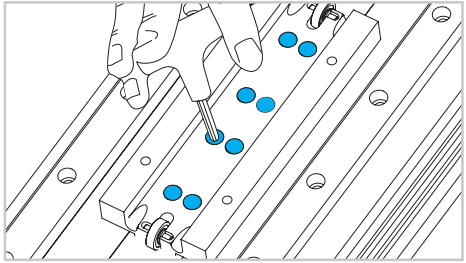

Fig. 8
- 9) Slide the top carriage in order to have access to the inner part. Untight the screws and lift the part which has been released (Fig. 8)